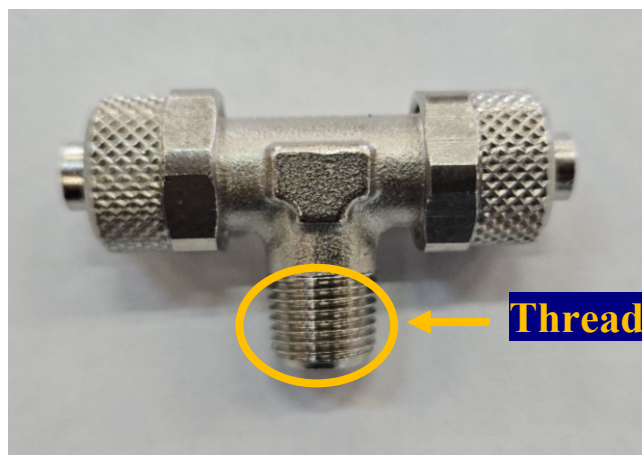
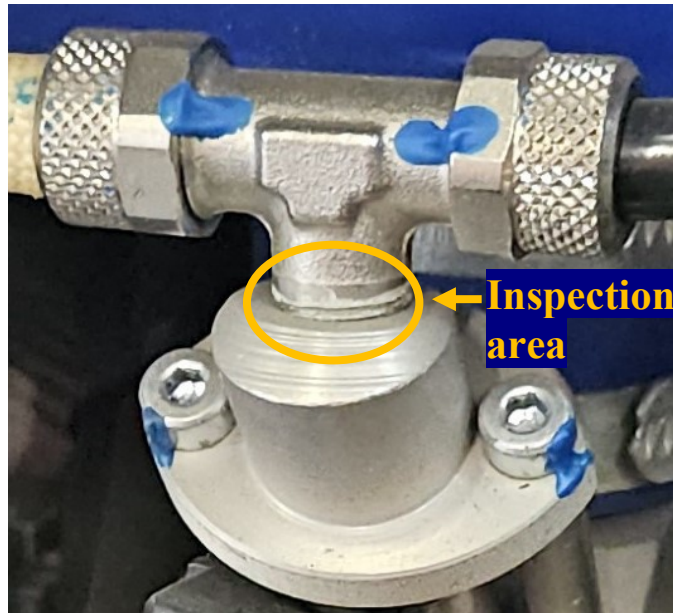

Fig. 3 T-pieces type 2
Fig. 4 Potential fuel leak inspection area
- 3) If you have T-pieces type 2 according to Fig.3, check for fuel leakage in the fuel system in the thread area during each flight inspection (the inspection area is shown in Fig.4). In case of leaks, replace with T-pieces recommended by Aviation Artur Trendak.